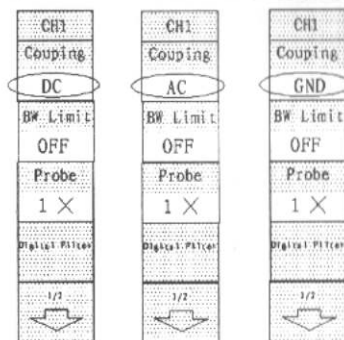

Figure 2-1
a. Coupling: It determines how the input signal is coupled to oscilloscope. As Fig. 2-1.